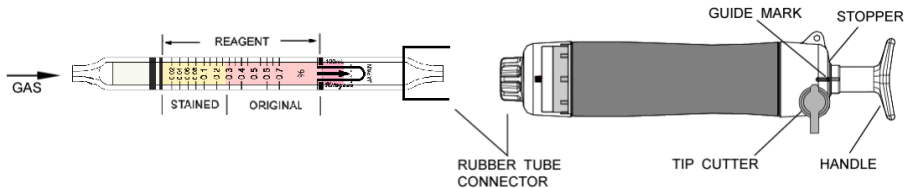

Fig.1
- ① Break both ends of the detector tube.
- ② Insert the detector tube into the aspirating pump securely as shown in Fig.1. (Arrow mark shall point to the pump.)
- ③ Align the guide marks on the shaft and stopper of the aspirating pump.
- ④ Pull the pump handle at a full stroke until it locks and wait for 1.5 minutes or until the completion of sampling is confirmed with the flow indicator of the pump. (See descriptions about the flow indicator in the instruction manual of the pump.)
- ⑤ On completion of sampling, read the scale at the maximum point of the stained layer.
- ⑥ When the concentration is over the scale range, a 1/2 pump stroke can be used to determine concentrations of 0.04 to 1.4 %.